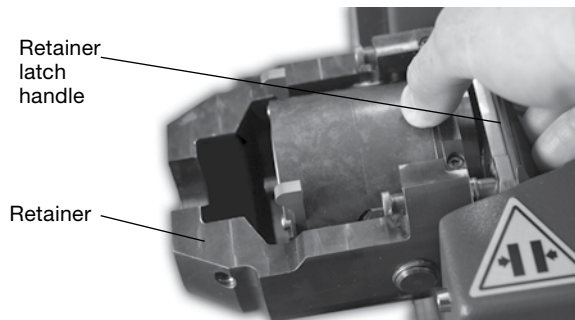

Fig. 6 Pulling the Retainer Latch Handle
1. Pull the retainer latch handle forward to lower the retainer. Fig. 6 and 7.